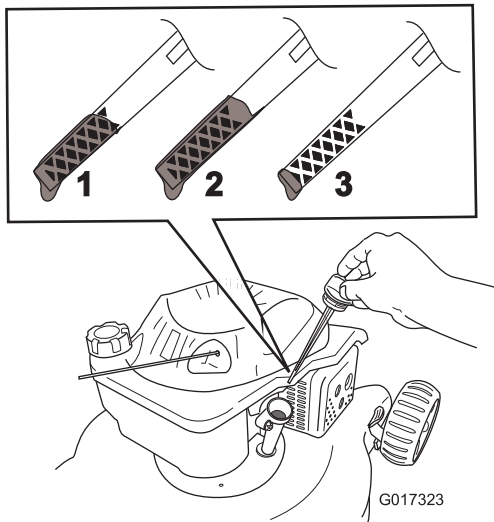

Figure 33
8. Remove the dipstick and read the oil level on the dipstick (Figure 33).